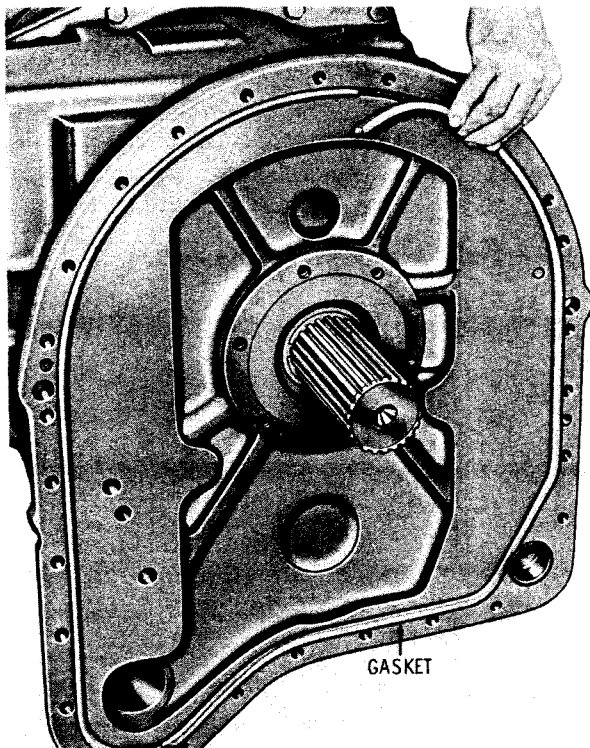

Fig. 7-50. Installing cork gasket at rear of transmission housing
(5) On transmissions prior to S/N 26374, install the cork gasket into the groove at the rear of the transmission housing (fig. 7-50).